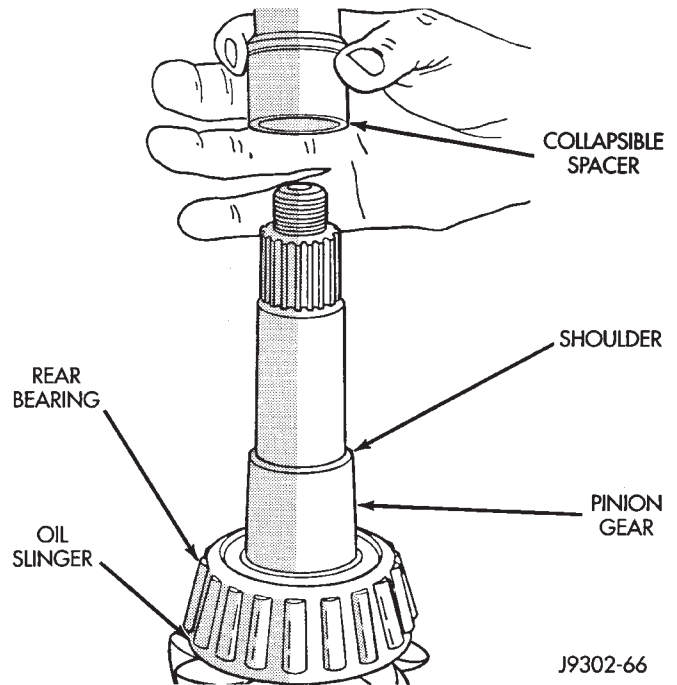
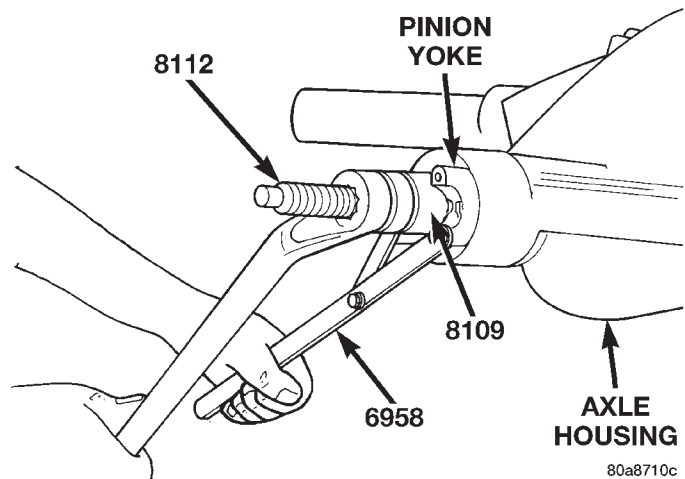

Fig. 44 Collapsible Preload Spacer
Fig. 45 Pinion Yoke Installation
(9) Install a new collapsible preload spacer on pinion shaft and install pinion gear in housing (Fig. 44).
(10) Install pinion gear in housing.
(11) Install yoke with Installer Screw 8112, Cup 8109, and holder 6958 (Fig. 45).
(12) Install the yoke washer and a new nut on the pinion gear and tighten the pinion nut until there is zero bearing end-play.
(13) Tighten the nut to 271 N·m (200 ft. lbs.).